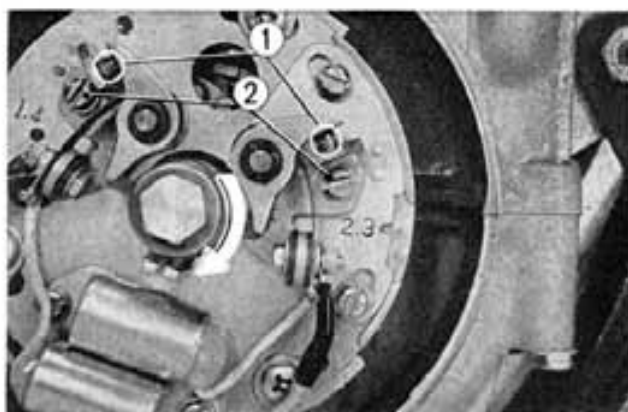

Fig. 7-19 ① Contact breaker points
(1) Contact breaker point gap (Fig. 7-19)
To adjust the point gap, loosen the contact breaker plate locking screw and move the contact breaker to the right or left until the proper gap opening is obtained and then tighten the locking screw. (Fig. 7-19)